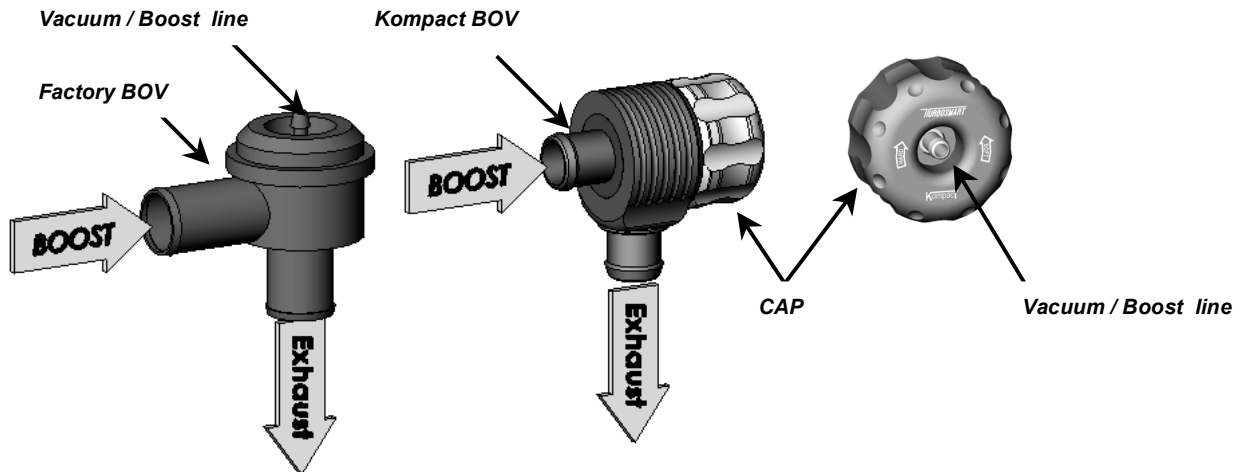

Figure 1 Orientation of Kompact PB BOV
- Remove the factory BOV **noting the positions of the boost hose and the exhaust hose**. You will have to fit the Kompact PB BOV with reference to the boost hose and exhaust hose. (see fig. 1). For more information on fitting, see the Turbosmart website.
- Connect the factory boost hose onto the Kompact PB BOV (As shown on Fig. 1).
- Connect the factory exhaust hose onto the Kompact PB BOV (As shown on Fig. 1).